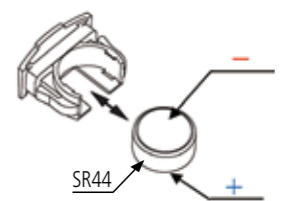

Fig. 1
6. For a digimatic type, use an SR44 battery (Order No. 938882). (Fig. 1)